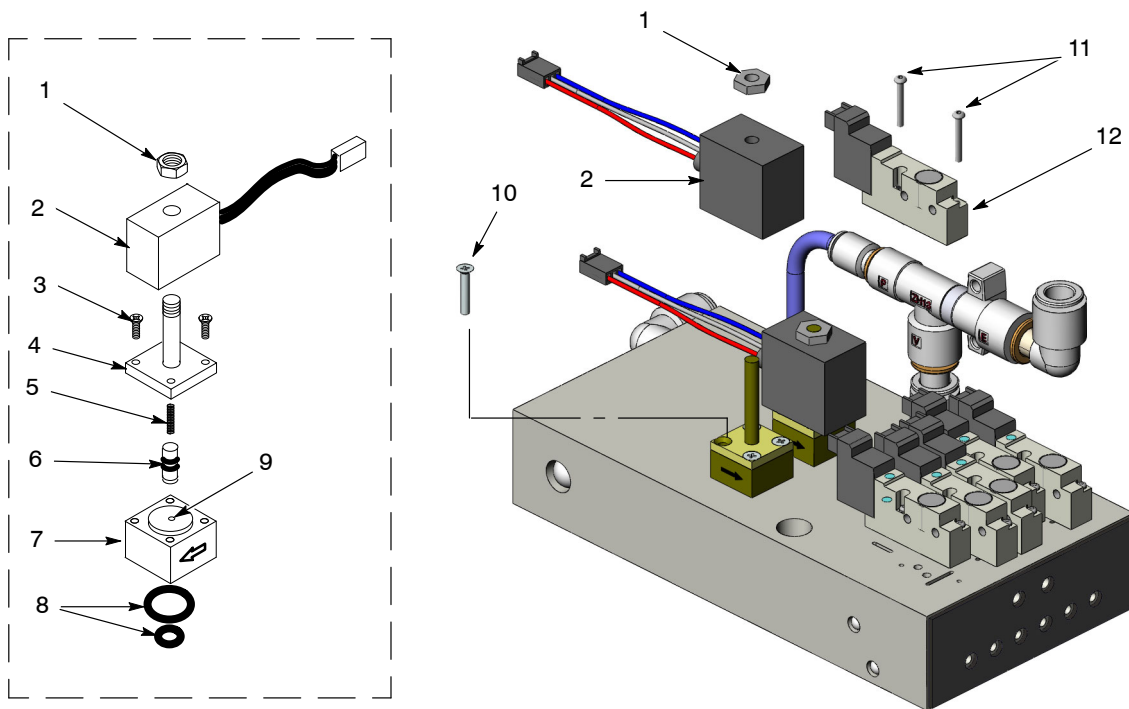

Figure 29 Manifold Repair
1. See Figure 29. Remove the nut (1) and coil (2) from the flow control valve.
2. Remove the two long screws (10) to remove the flow control valve from the manifold.
See Figure 29. Remove the valve by removing the nut (1), coil (2), and long screws (10).
See Figure 29. To remove the solenoid valves, remove the two screws (11) in the valve body and lift the solenoid valve (12) off the manifold.